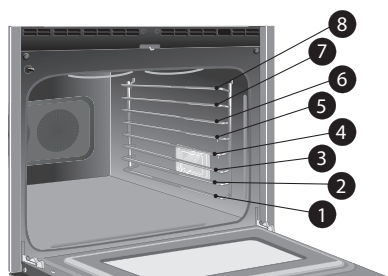

Figure 13: Rack positions
- For cakes and cookies place cookware on oven rack positions 6 Glide rack (or 7 using flat rack) and position 2 Glide rack (or 3 using flat rack) as show in (Figure 13)